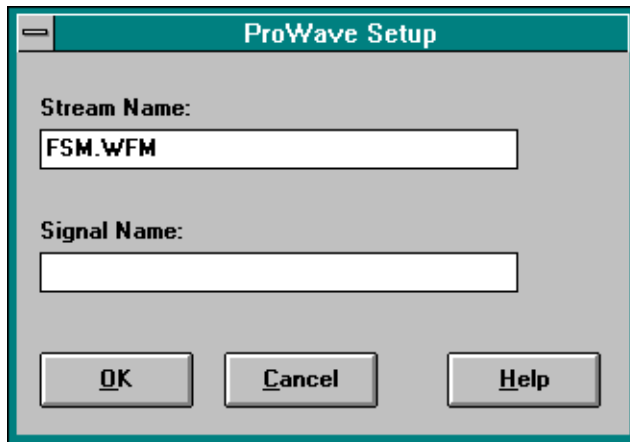

Figure 2-21 PROwave Setup Dialog Box
2. Select the **Command File** box and the **Browse** button. The Command Files browser appears as in Figure 2-21: